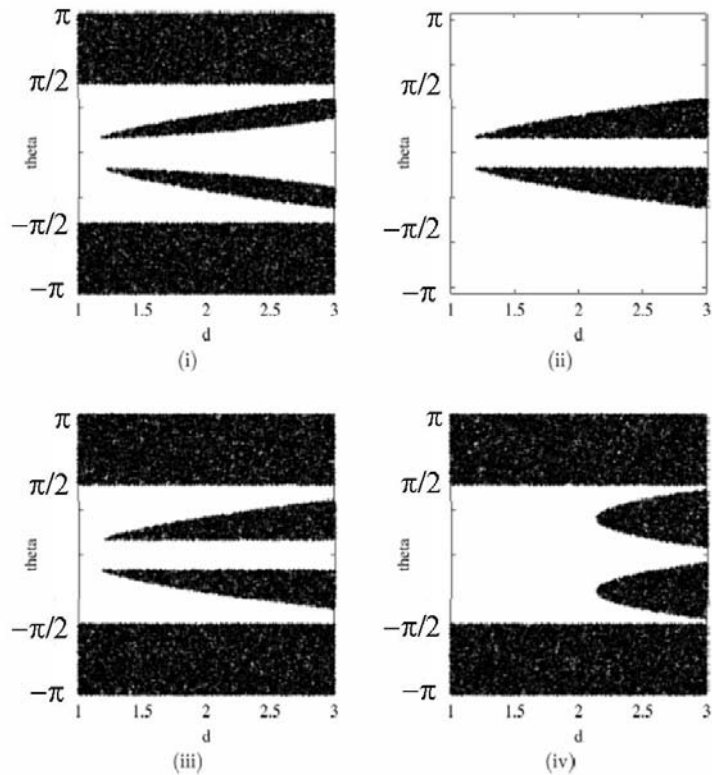

Figure 3: Candidate configuration spaces (Problem I)
1. The 4 drawings in Figure 3 present four copies of the configuration space $[1,3] \times [-\pi, +\pi]$ of this robot. Which drawing depicts the correct map: (i), (ii), (iii), or (iv)? [Simple observations should allow you to eliminate three drawings.]
2. On the drawing you have selected in Figure 3, mark the start configuration with a plus (+) and the goal configuration with a bold bullet (**•**). Draw a collision-free path for the robot to move from the initial configuration to the goal configuration.